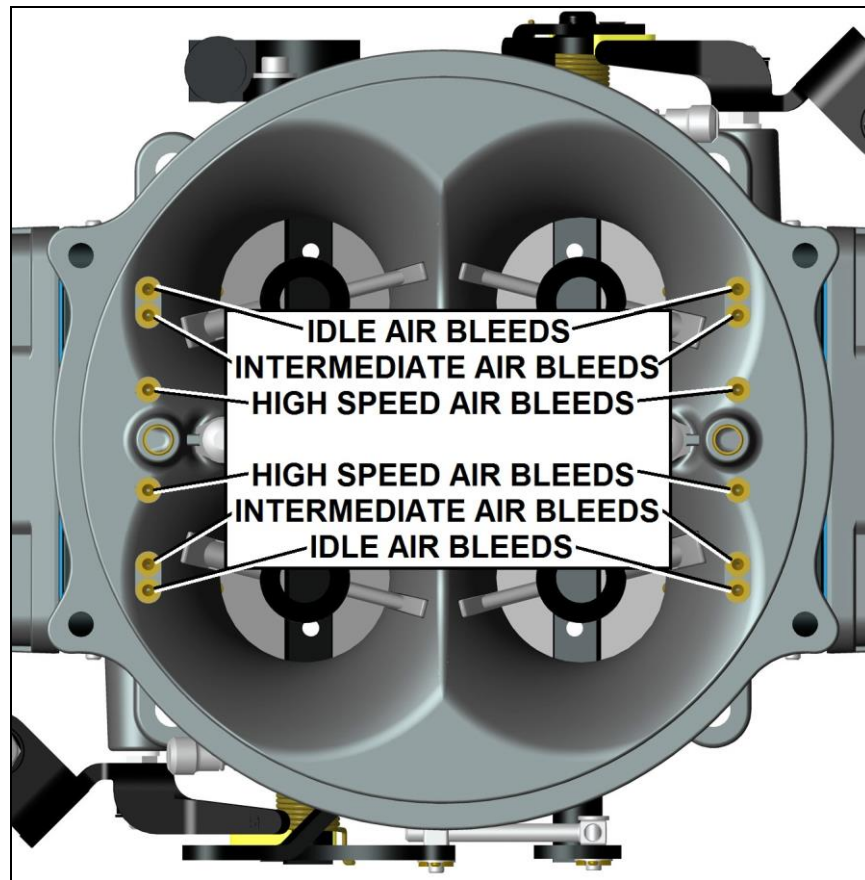

Figure 11
**NOTE:** See Figure 11 for air bleed locations and identification. It is recommended that all jet sizes be documented before any tuning of the air bleeds or main jets is started. Below is a chart for recording the jet and air bleed sizes for your 4500 ULTRA DOMINATOR carburetor, as shipped from Holley. Should you adjust the air bleed size or main jet size, this chart will allow the tuner to return the carburetor to the original jetting. Please place this information in a safe place along with any other documentation for your carburetor.